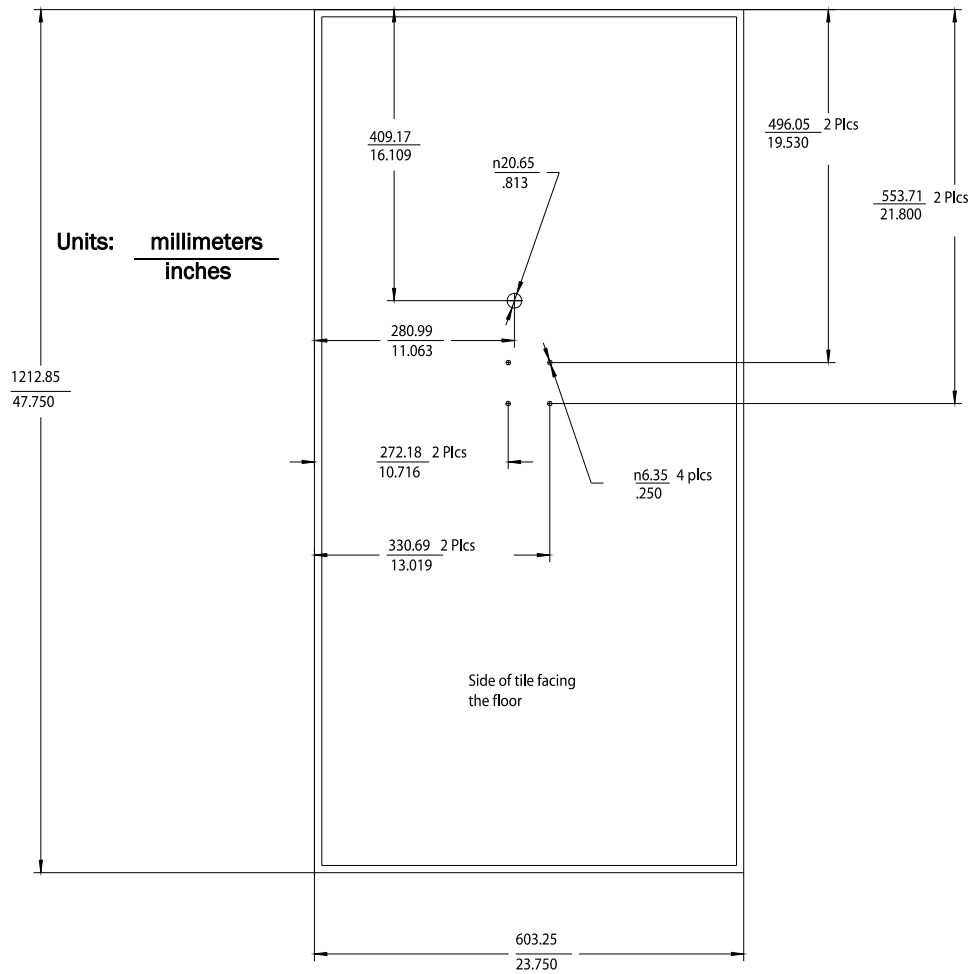

Figure 2-19: RA Below Ceiling Tile Hole Locations and Dimensions
3. Refer to Figure 2-19 for all dimensions and hole locations. Place the mounting rails across the tile (underside of tile). For ceiling tiles that are smaller than standard 2' x 4' size ceiling tile, the mounting rails can be cut down in length at the u-shaped cutouts.